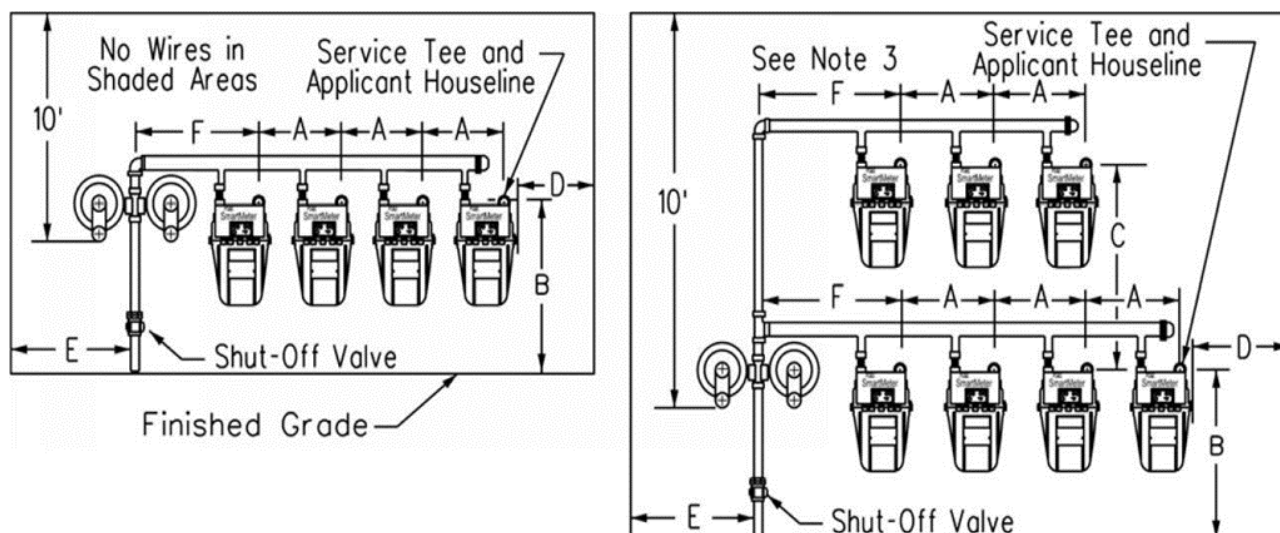

Figure 15. Typical Residential Multimeter Installations
- C. The Company limits gas meter manifold configurations to one-tier or two-tier meter manifolds not exceeding 60 inches high. These manifolds are measured from the final level standing surface to the top of the manifold. See Figure 15 and Table 1.
- D. Notes in reference to Figure 15:
- (1) The applicant’s houselines must be stubbed out 4-inches to 6-inches from the finished wall at the locations shown.
- (2) The applicant must clearly mark each houseline.
- (3) Applicants must not install any electrical devices or equipment, including wires, cables, metering enclosures, telecommunication enclosures, bond wires, clamps, or ground rods within 36-inches from the service riser, 12-inches horizontally from the farthest edge of PG&E facilities, and 10-feet above the regulator vent.
- (4) Applicants may need to install the gas service riser farther away from the building to accommodate the manifold installation. PG&E will provide site-specific details for manifold meter set dimensions.
Table 1. Dimensions for Figure 15